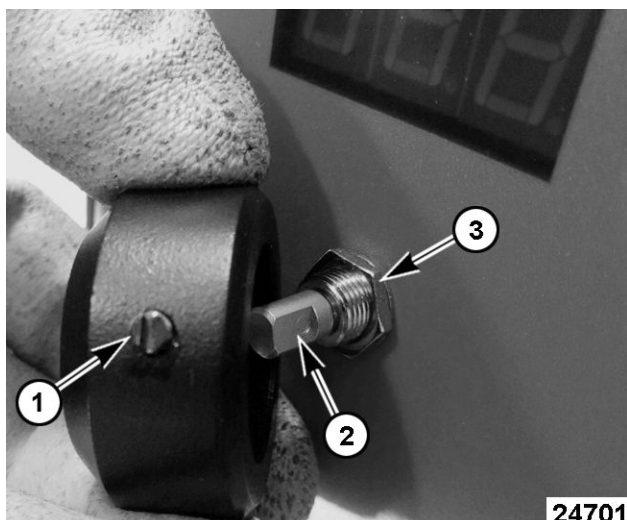

Fig. 43
4. Loosen set screw (1, Fig. 43) in tapped hole on knob.
5. Remove encoder nut (3, Fig. 43) to remove encoder.
NOTE: Tapped hole needs to be aligned with flat part (2, Fig. 43) of encoder. Align tab in control panel hole needs to align with groove in encoder.